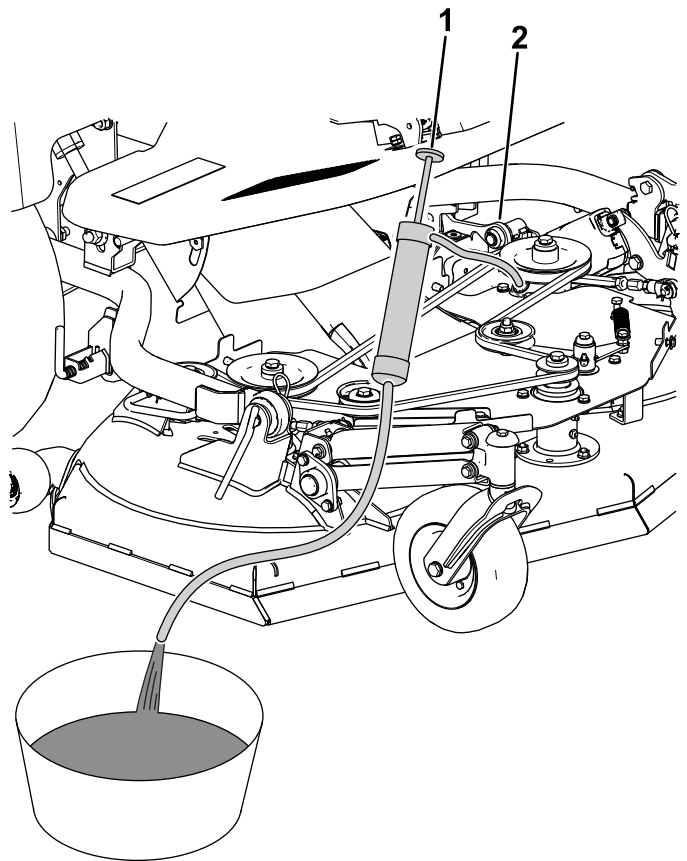

Figure 95
3. Using a siphon extract the gearbox oil from the gearbox (Figure 95).